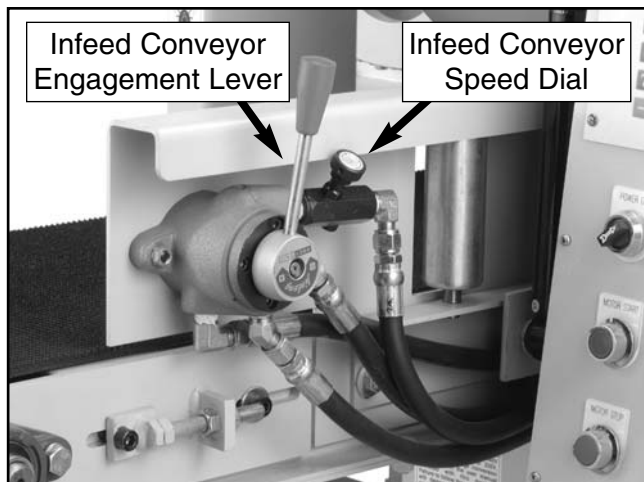

Figure 24. Infeed conveyor controls.
2. With the saw running, push the infeed conveyor engagement lever (**Figure 24**) forward (toward the blade) to start the infeed conveyor.
3. Turn the infeed conveyor speed dial (**Figure 24**) counter-clockwise to increase the speed and clockwise to decrease the speed.